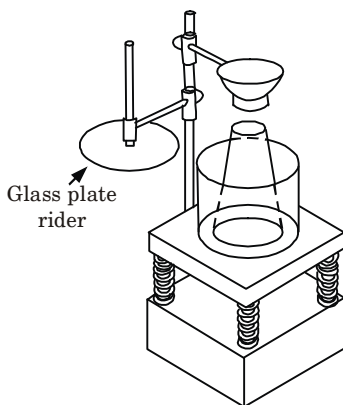

Fig. 1. Vee-Bee apparatus.
- 3. The test consists of moulding a fresh concrete cone in a cylindrical container mounted on a vibrating table (Fig. 1).